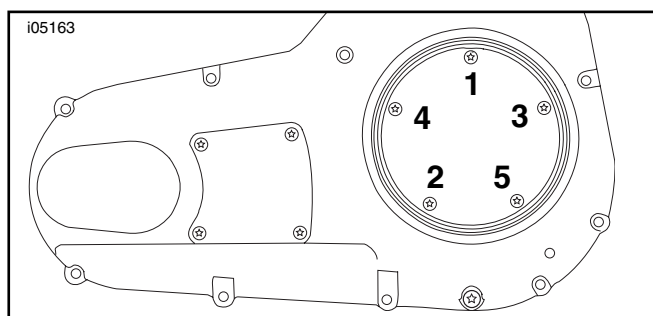

**Figure 4. Torque Sequence, Primary Chaincase Cover**
4. See Figure 4. Tighten the derby cover screws, in the sequence shown, to 84-108 **in-lbs** (10-12 Nm).
- e. Using a T27 TORX drive head, alternately tighten screws to 84-108 **in-lbs** (10-12 Nm) in the pattern shown in Figure 4.